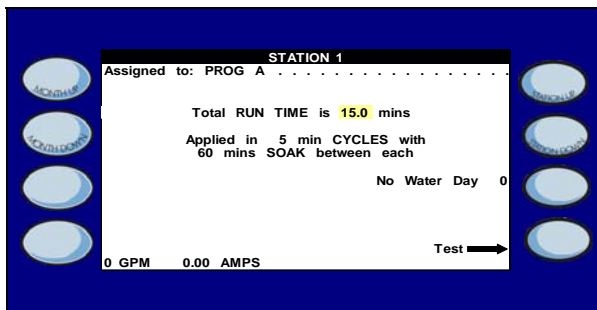

Figure 4
7. The **STATION PROGRAMMING** screen will appear (Figure 4).
The **STATION PROGRAMMING** screen is used to set times for each individual station (Figure 4).